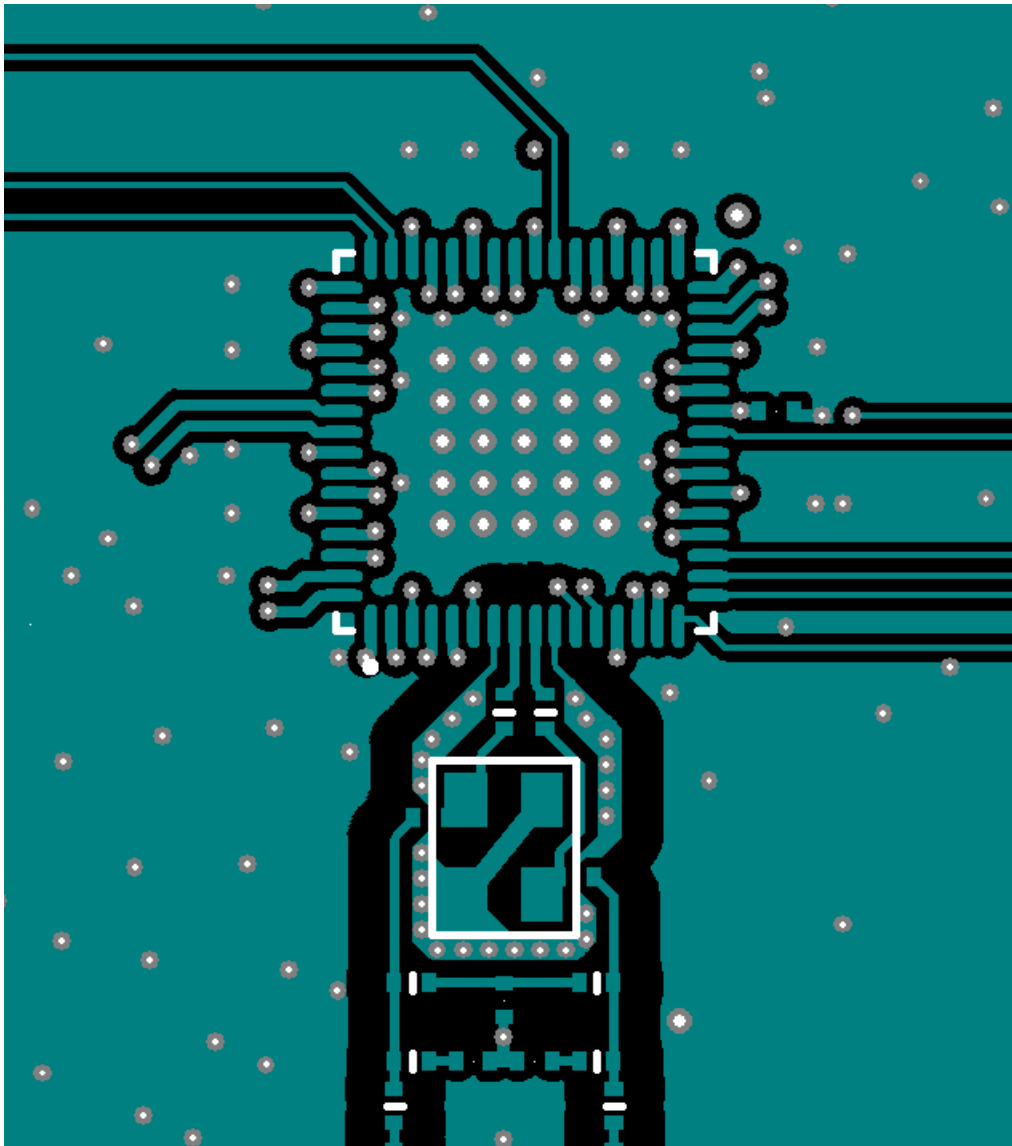
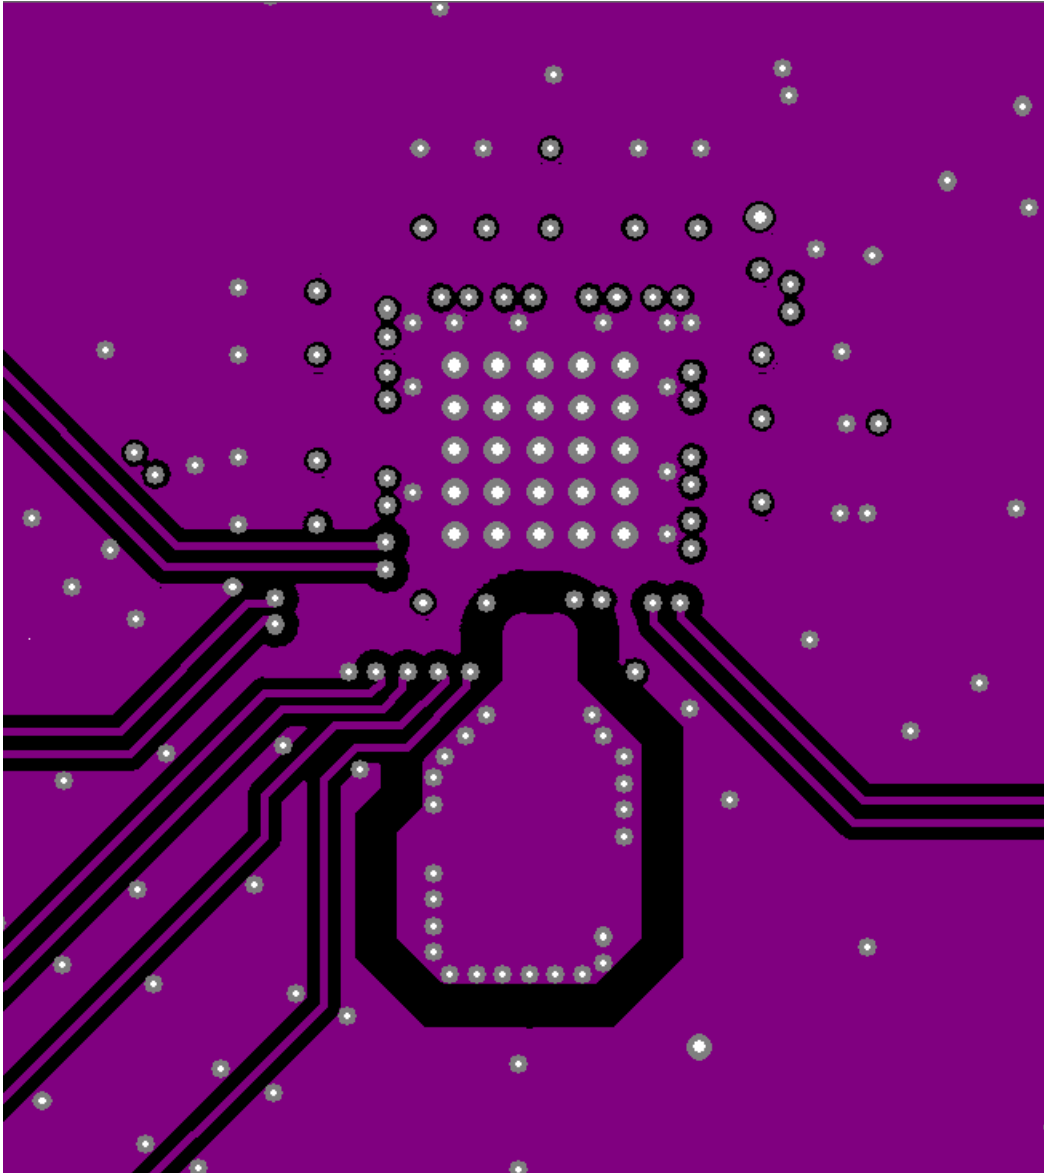

Figure 12.1. 64-pin Si5345 Crystal Layout Recommendations Top Layer (Layer 1)
Figure 12.2. Zoom View Crystal Shield Layer, Below the Top Layer (Layer 2)
Figure 12.1 64-pin Si5345 Crystal Layout Recommendations Top Layer \(Layer 1\) on page 63 is the top layer layout of the Si5345 device mounted on the top PCB layer. This particular layout was designed to implement either a crystal or an external oscillator as the XA/XB reference. The crystal/ oscillator area is outlined with the white box around it. In this case, the top layer is flooded with ground. Note that this layout has a resistor in series with each pin of the crystal. In typical applications, these resistors should be removed.
3. Connect the crystal's GND pins to the DUT's X1 and X2 pins via a local crystal GND shield placed around and under the crystal. See Figure 12.1 64-pin Si5345 Crystal Layout Recommendations Top Layer \(Layer 1\) on page 63 at the bottom left for an illustration of how to create a crystal GND shield by placing vias connecting the top layer traces to the shield layer underneath. Note that a zoom view of the crystal shield layer on the next layer down is shown in Figure 12.2 Zoom View Crystal Shield Layer, Below the Top Layer \(Layer 2\) on page 64.
Figure 12.2 Zoom View Crystal Shield Layer, Below the Top Layer (Layer 2) on page 64 shows the layer that implements the shield underneath the crystal. The shield extends underneath the entire crystal and the X1 and X2 pins. This layer also has the clock input pins. The clock input pins go to layer 2 using vias to avoid crosstalk. As soon as the clock inputs are on layer 2, they have a ground shield above, below, and on the sides for protection.